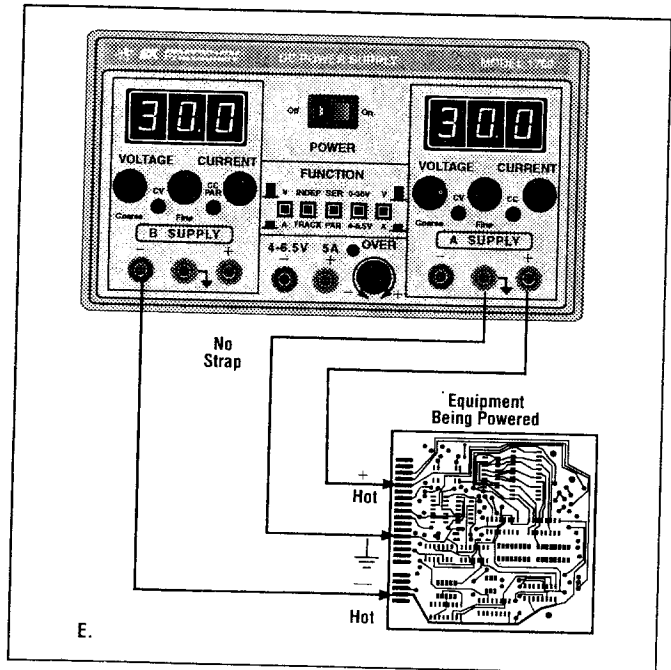

Fig. 8. Series Tracking (0-to-60 V) Operation Grounding Possibilities
8. Fig. 8 illustrates the grounding possibilities when the unit is used as a 0-to-60 volt supply.